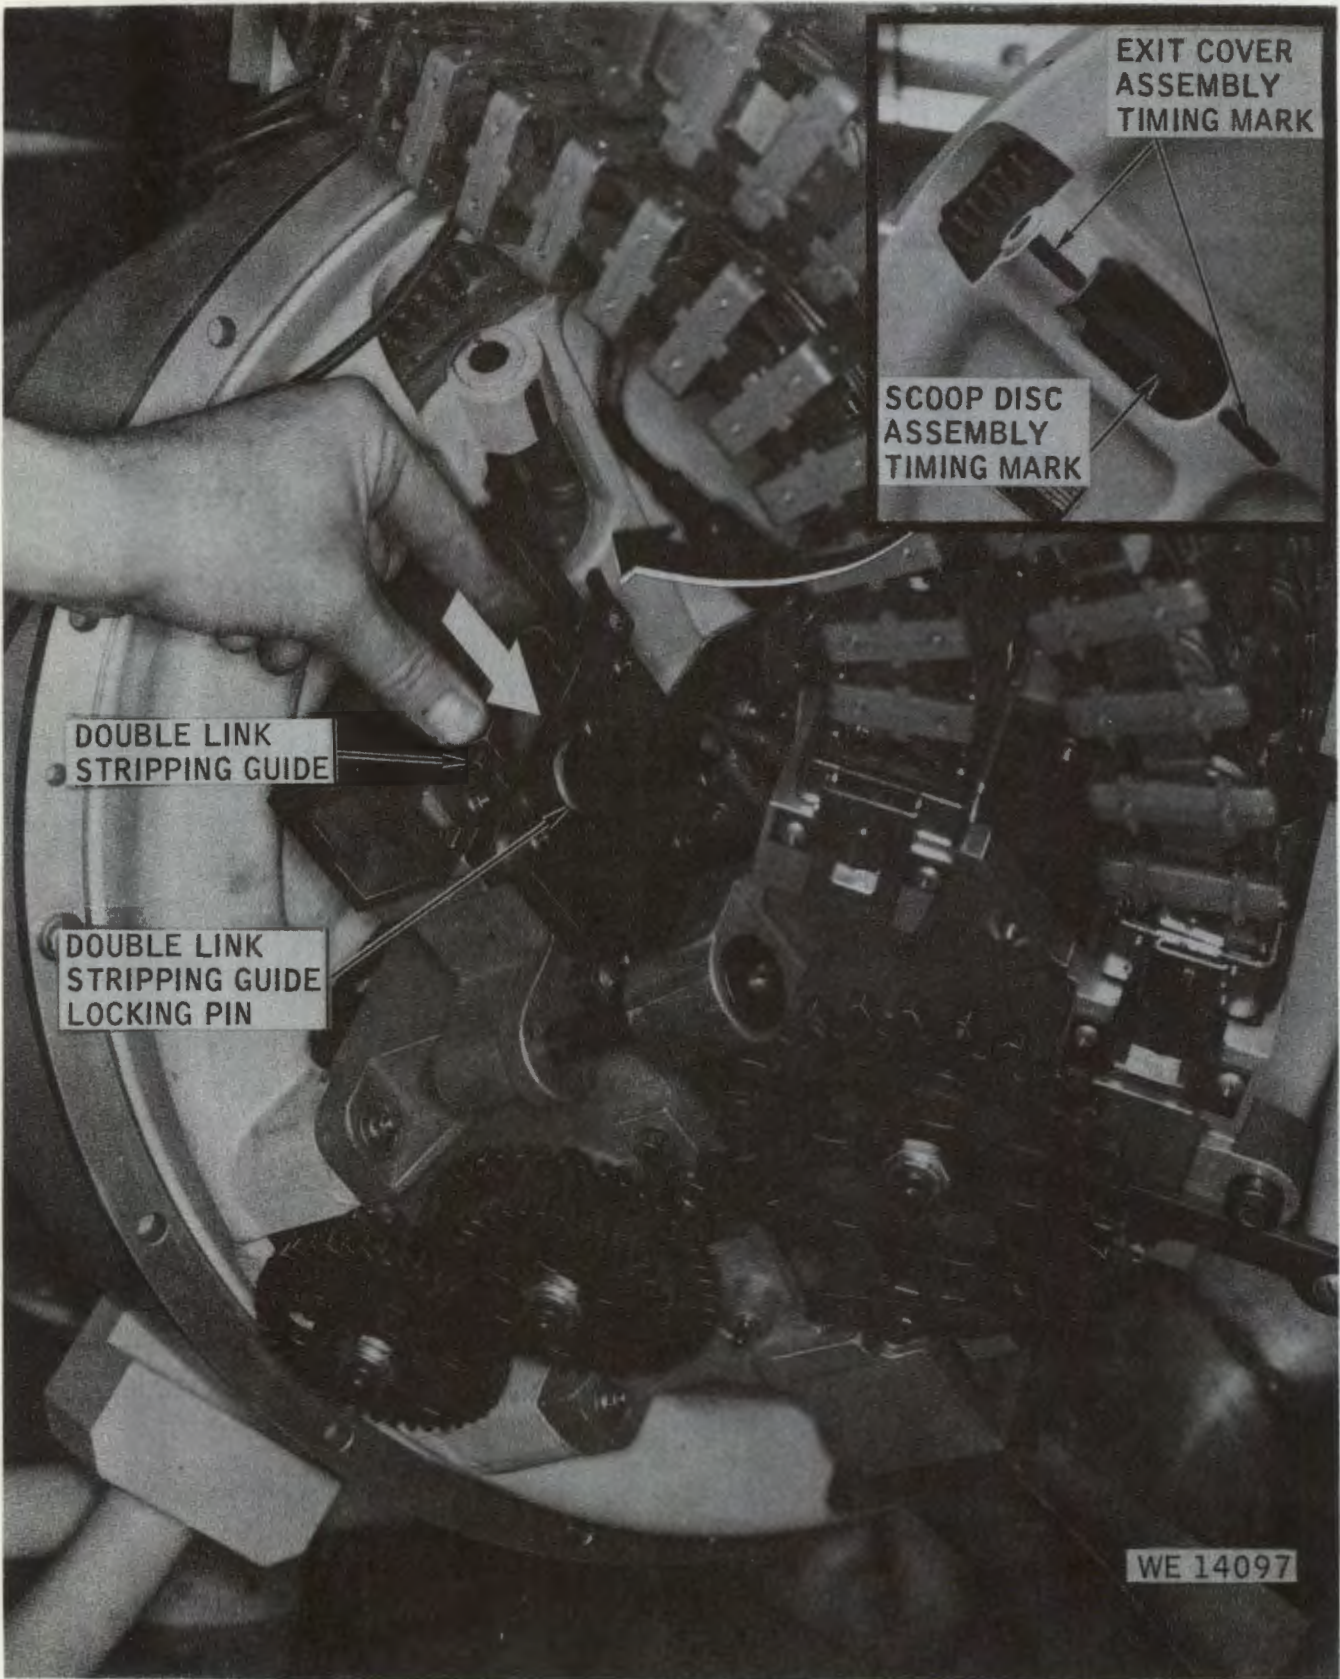

Figure 2-55. Placing double link-stripping guide in load position.
(10) Proceed to step 12.
(11) Rotate takeoff gear in feed direction (clockwise) until timing mark on scoop disc assembly is nearly aligned with timing marks on exit cover assembly (fig 2-55).
(12) Momentarily pull out double link-stripping guide locking pin and push down double link-stripping guide until locking pin engages with the upper hole in the stripping guide (load position) (fig 2-55).
(24) Remove remaining links from exit unit assembly. Recover the tail link if applicable. Remove and dispose of the stripped links.
(25) If linked ammunition remains in exit unit assembly, insert socket wrench handle into takeoff gear knurled knob. Rotate slowly in clockwise direction until remaining linked ammunition can be removed from the loading chute assembly. Remove handcrank.
(26) Momentarily pull out double link-stripping guide locking pin; pull double link-stripping guide until stripping guide is fully out and locking pin is engaged (fig. 2-55).